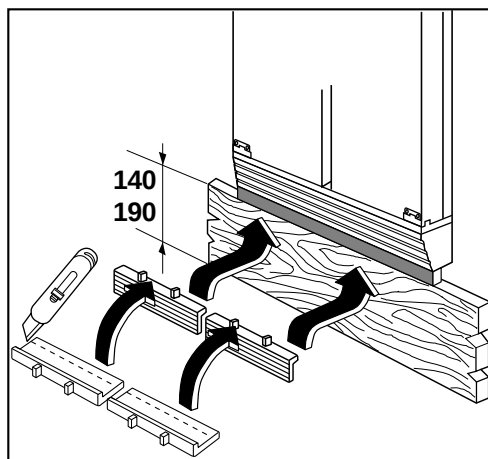

Fig. 18
- If using a plinth higher than 100 mm but less than 140 mm, cut the height compensation strip supplied with the appliance to the required depth and fit it between the plinth and the ventilation grille, pressing it into position below this grille (Fig. 18).
- If using a plinth higher than 150 mm but less than 190 mm, cut the height compensation strip supplied with the appliance to the required depth and fit it between the plinth and the ventilation grille (Fig. 18).